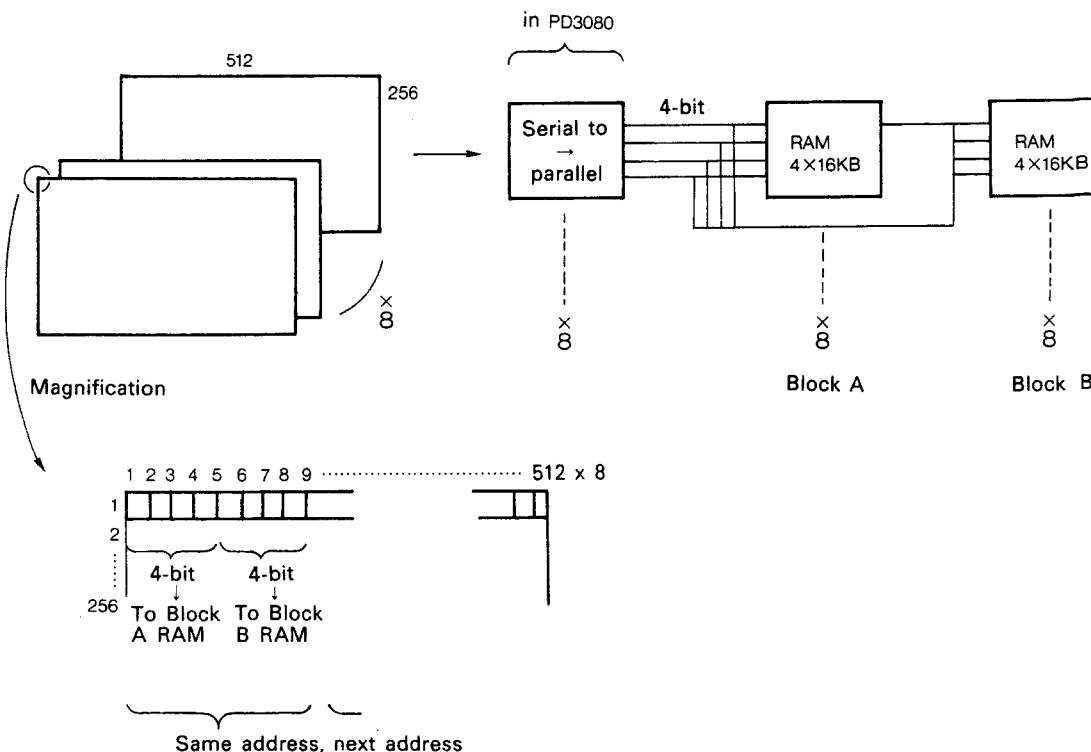

Fig. 3-3-3 RAM data write
Fig. 3-3-3 shows the data write operation. Since A/D conversion output is 8-bit parallel, the serial data of each bit is converted from serial (S) to parallel (P) in the PD3080.